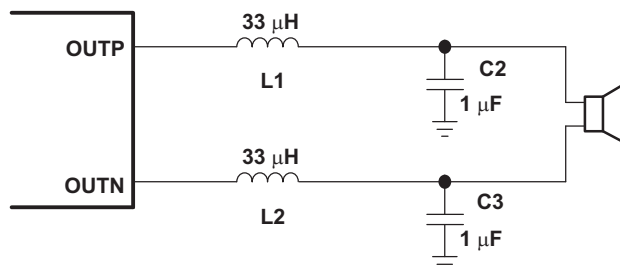
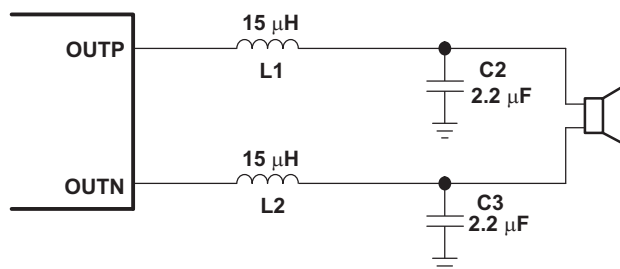
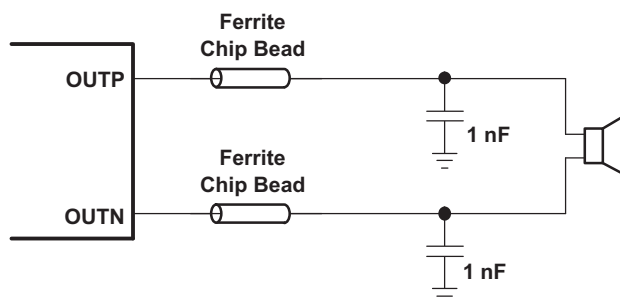

Figure 19. Typical LC Output Filter, Cutoff Frequency of 27 kHz, Speaker Impedance = 8 Ω
Figure 20. Typical LC Output Filter, Cutoff Frequency of 27 kHz, Speaker Impedance = 4 Ω
Figure 21. Typical Ferrite Chip Bead Filter (Chip Bead Example: Steward HI0805R800R-10)
- Output filter—The ferrite EMI filter (Figure 21) should be placed as close to the output terminals as possible for the best EMI performance. The LC filter (Figure 19 and Figure 20) should be placed close to the outputs. The capacitors used in both the ferrite and LC filters should be grounded to power ground.